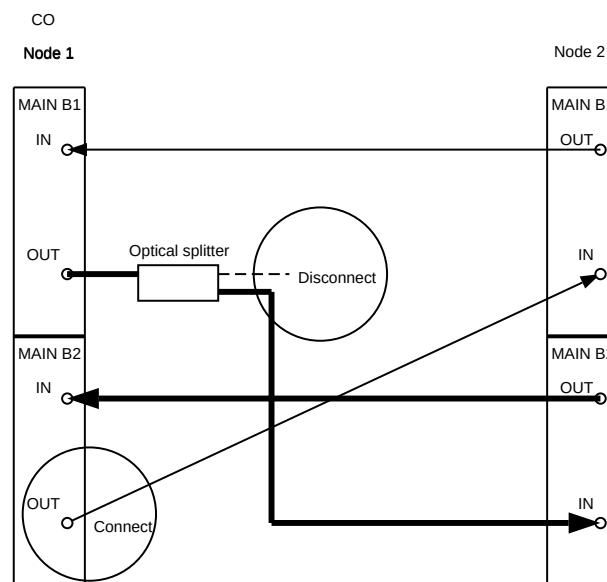

Figure 6. DDM-2000 OC-12 Point-to-Point Network to Ring Upgrade
12. Disconnect the optical splitter output from the fiber going to Node 2 **MAIN-B-1 IN** and connect the fiber to Node 1 **MAIN-B-2 OUT**. (See Figure 6.)